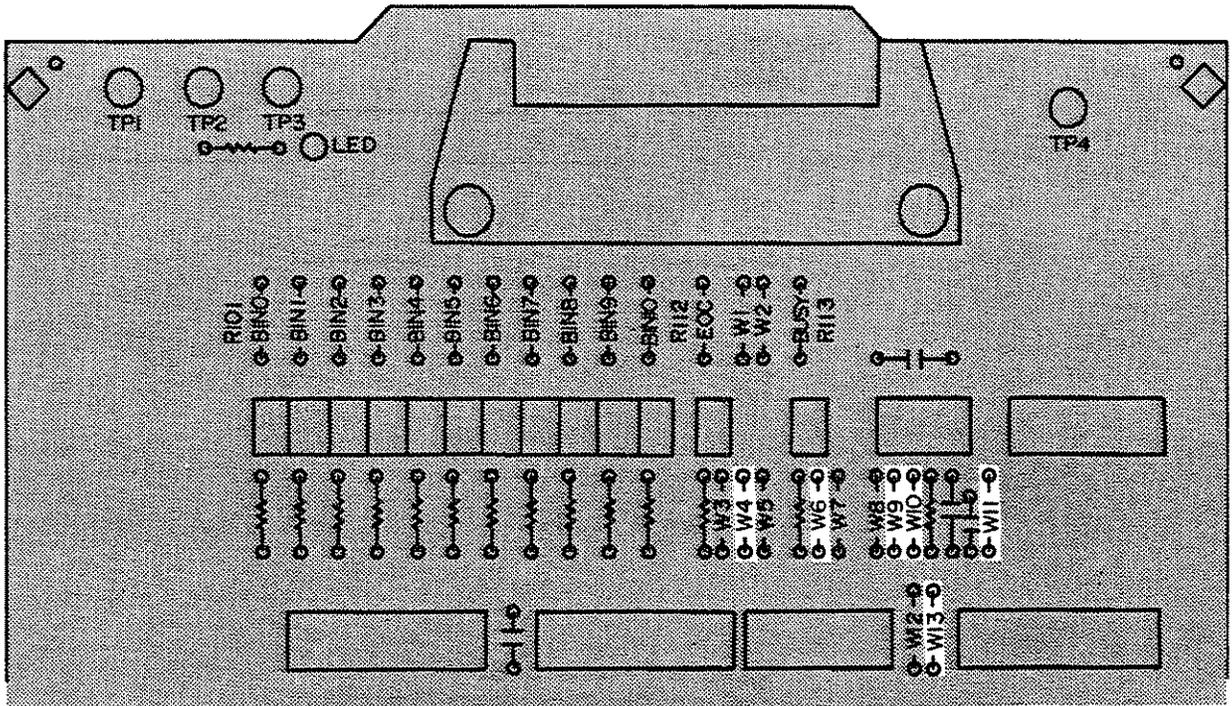

Figure 3-13. Isumeca 83 Jumper and Pull-Up Resistor Locations
2. Configure the following interface signals by installing the jumpers as shown in Figure 3-13.